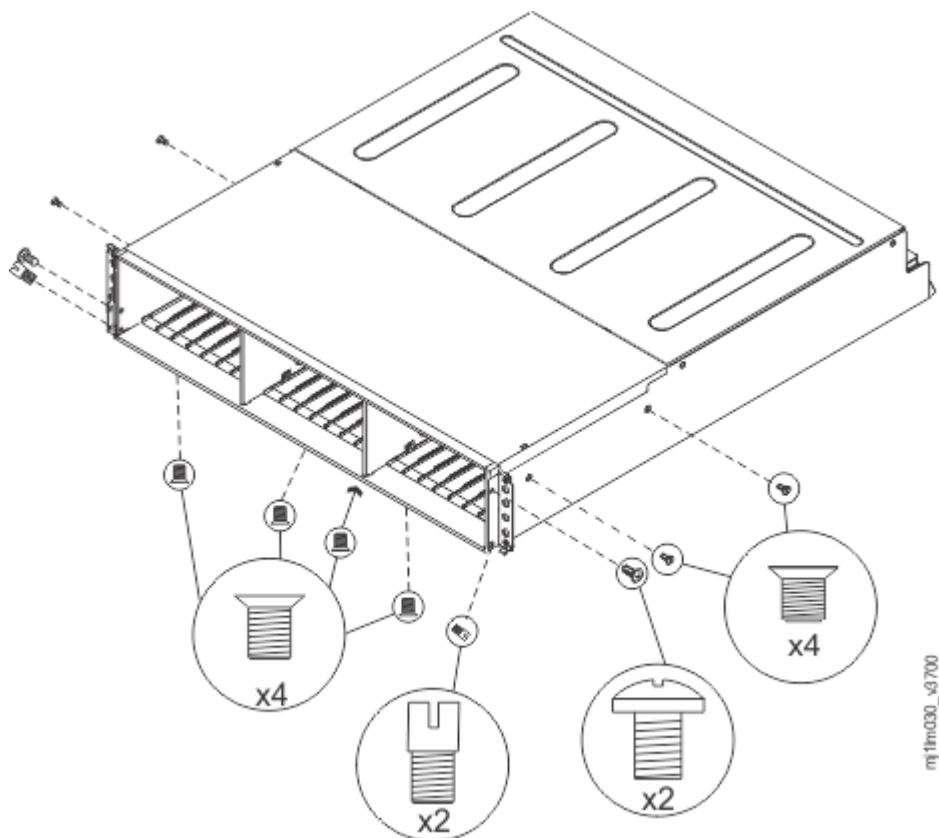

Figure 130. Removing the screws of an expansion enclosure assembly
12. Remove the four screws from the bottom of the enclosure (see Figure 130 on page 168). Remove the three screws that are near the front and the screw that is near the middle. Label these screws to indicate the location from which they are removed and place them aside.
14. Remove the three screws and one screw-pin on the right side that secure the midplane assembly to the enclosure (see Figure 130 on page 168). Label the screws to indicate the location from which they are removed and place them aside.
15. Remove the three screws and one screw-pin on the left side that secure the midplane assembly to the enclosure (see Figure 130 on page 168). Label the screws to indicate the location from which they are removed and place them aside. See Figure 4.